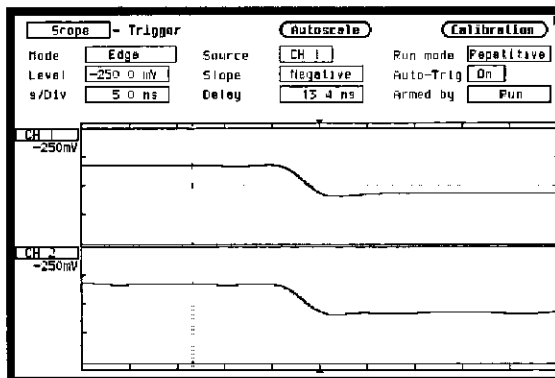

Figure 25-6. Negative Edge Of Waveform
4. Touch the TRIG key and toggle the **Slope** field in the Trigger Specification menu to Negative. Notice the negative-going edge of the waveform is now displayed as shown in figure 25-6.